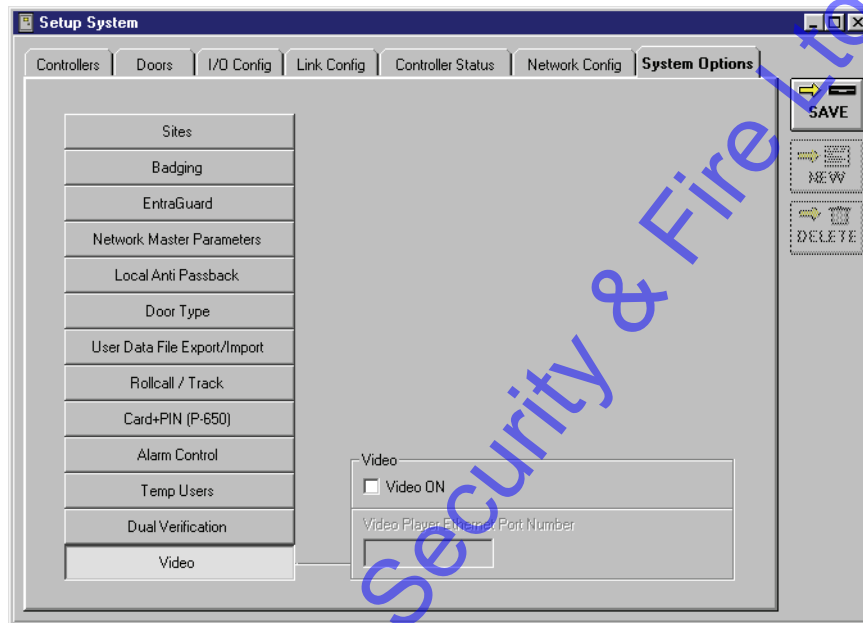

Figure 15-1: System Options Tab - Video Disabled
1. Click on the Setup ⇒ System pull-down menu or click on the  button on the tool bar, then click on the **System Options** tab. The System Options window appears. Click on the  button to reveal the Video field (see Figure 15-1).